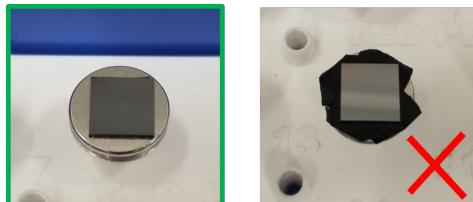

Figure 4.3: Ideal silicon sample preparation. Do not overuse carbon tape as shown on right.
1. Apply small strip of carbon tape (double sided) to preferred stub. Do not over-use carbon tape since it is a source of system contamination. See Fig 4.3 for ideal silicon sample preparation.